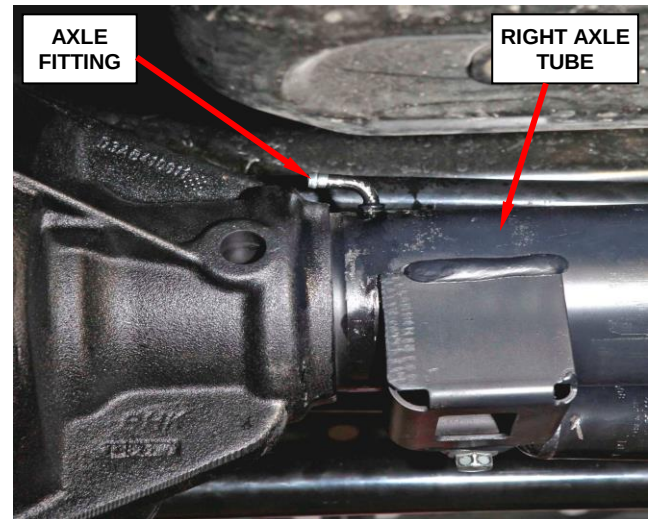

Figure 6 – Rotate Axle Vent Tube Fitting
1. Remove the axle vent hose from the axle fitting (Figure 6).
2. Rotate the axle fitting so that the vent opening is parallel to the axle (vent fitting opening towards the driver's side) (Figure 6).